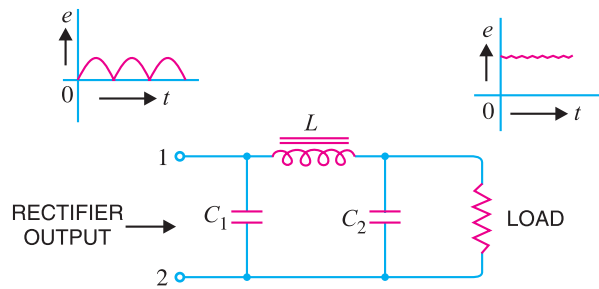

Fig. 6.43
**(iii) Capacitor input filter or  $\pi$ -filter.** Fig. 6.43 shows a typical capacitor input filter or \*\* $\pi$ -filter. It consists of a filter capacitor  $C_1$  connected across the rectifier output, a choke  $L$  in series and